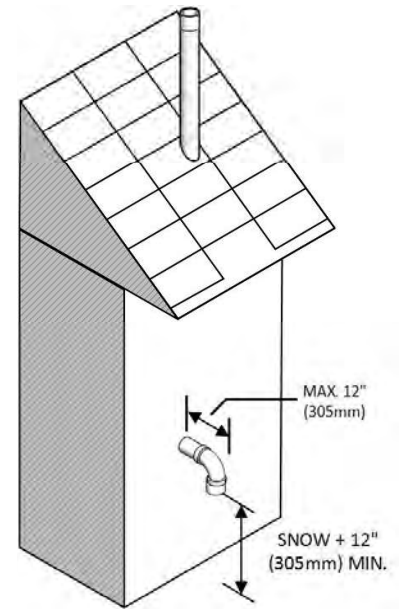

Figure 10: Rooftop vent termination with sidewall combustion air.
- The intake air pipe is not typically drained, so it must be terminated with a down-turned elbow (*see Figure 10*). The intake pipe does not need to penetrate the roof at the same elevation as the exhaust (as shown); lower down the roof is acceptable.
- The air intake pipe may terminate on the side wall of the building as long as the air intake terminal is turned down and the side wall of the building is not exposed to large wind loads i.e.: prevailing wind (*see Figure 10*).